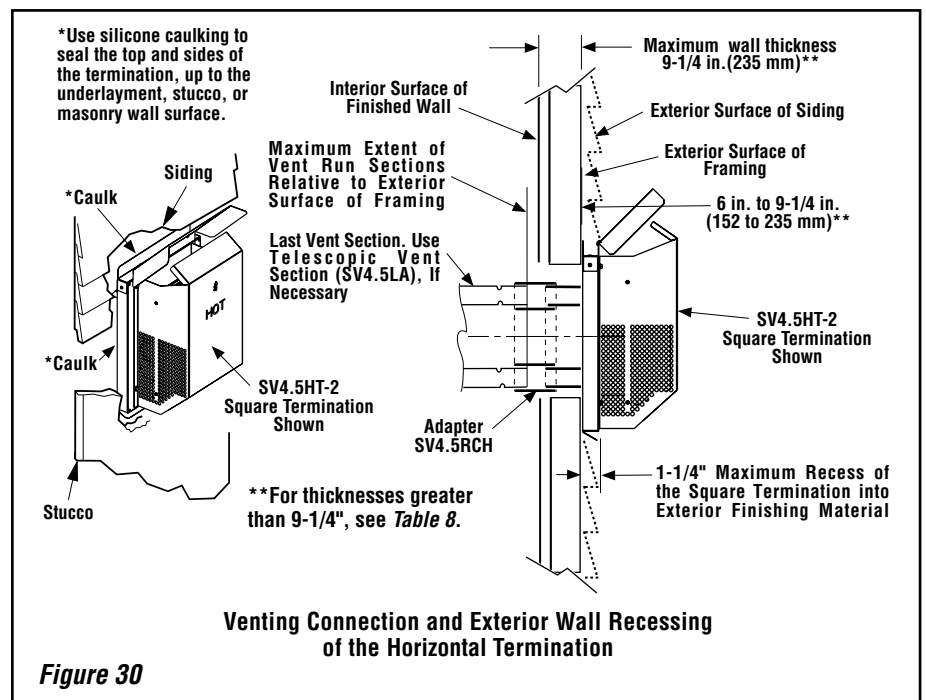

Figure 30
J. Assemble vent run to exterior wall - If not previously measured, locate the center of the vent at the exterior wall. Prepare an opening as described in **Step B**. Assemble the vent system to point where the terminus of the last section is located relative to the exterior surface to which the termination is to be attached as shown in **Figure 30 and Table 8**.
If the terminus of the last section is not within this distance, use the **telescopic vent section SV4.5LA**, as the last vent section. For wall thicknesses greater than that shown in **Figure 30**, refer to **Table 8 on Page 20**. This Table lists the additional venting components needed (in addition to the termination and adaptor) for a particular range of wall thicknesses.
For the last step, from outside the exterior wall, slide the collars of the termination onto the adaptor (the outer inside the outer and the inner outside the inner) until the termination seats against the exterior wall surface to which it will be attached. Orient the housing of the termination with the arrow pointed upwards. Secure the termination to the exterior wall. **The horizontal termination must not be recessed into the exterior wall or siding by more than the 1-1/4" (32 mm) as shown in Figure 30.**
Note: See Figure 30 showing wall thickness range when using SV4.5HT-2 termination kit.